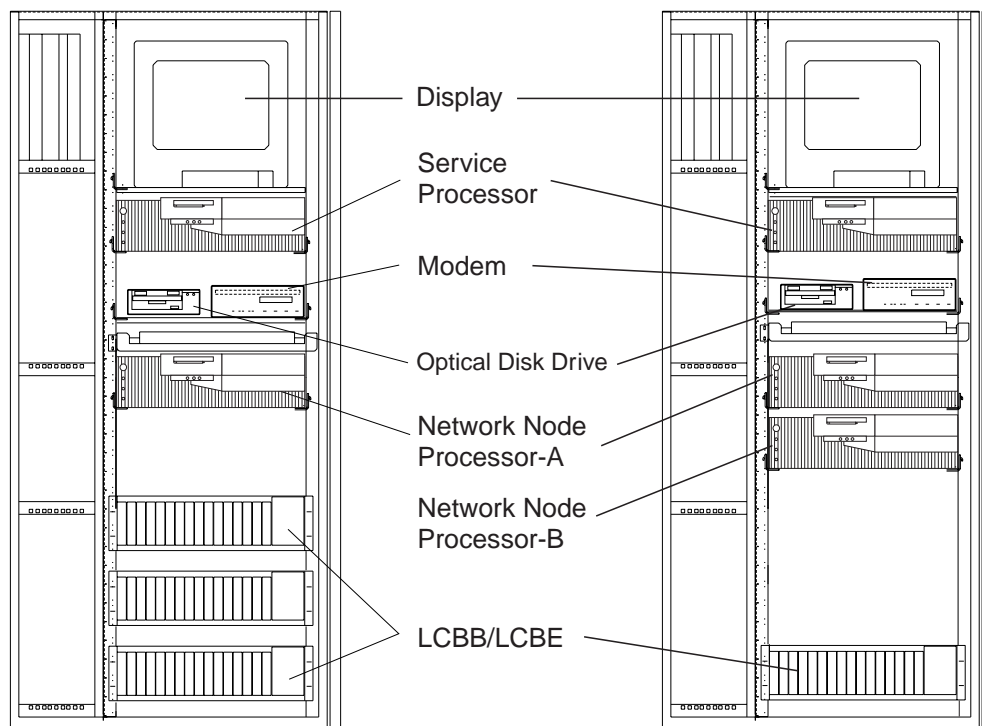
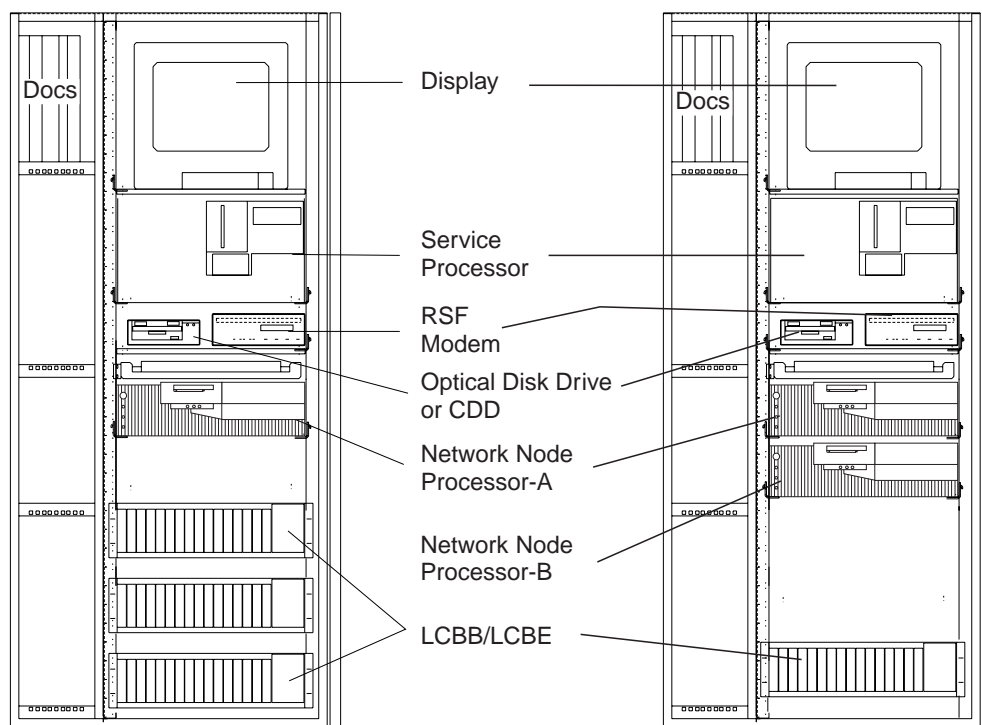

Figure 3. Units Installation in the Controller Expansion (SP and NNP Type 6275)
Figure 7. Units Installation in the Controller Expansion (SP Type 3172 NNP Type 6275)
- \_\_\_ 2. Locate the Network Node Processor. (Refer from Figure 3 on page 7 to Figure 7 on page 11).
- \_\_\_ 4. Switch the power **OFF (O)**.